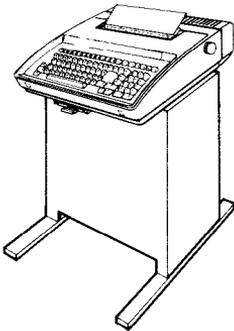

Fig. 1—43 Buffered KSR Teleprinter
1.01 This part provides teleprinter installation and removal information for the 43 Buffered KSR (Fig. 1).